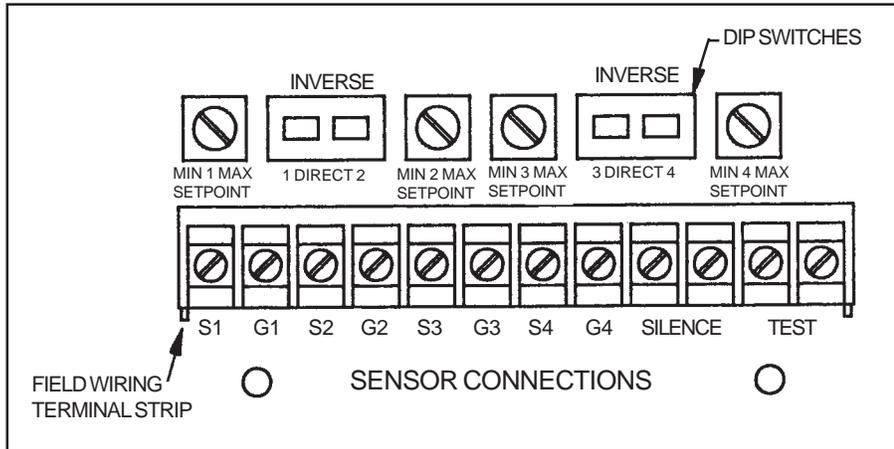

Figure 4-1
Before putting system into operation, DIP switches and potentiometers (set point) must be set to correctly match the type of sensor you are using. (Ref to Table 4-1). The DIP switches and potentiometers are located above the sensor terminal strip. (Figure 4-1)
1. Recheck position of DIP switch (Figure 4-1, Table 4-1). If correct continue.